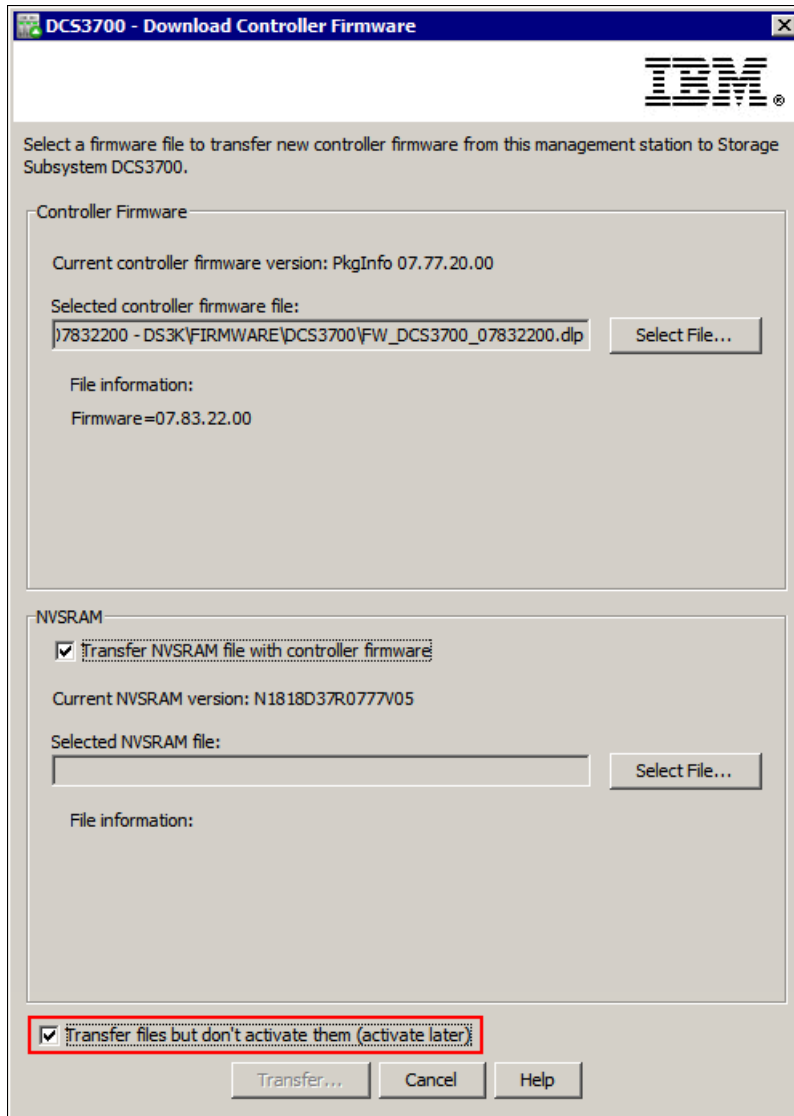

Figure 14-17 Transfer firmware and NVSRAM only (activate later)
- a. To transfer the firmware and NVSRAM, select the **Transfer files but don't activate them (activate later)** check box at the bottom of the Download Firmware window (see Figure 14-17).